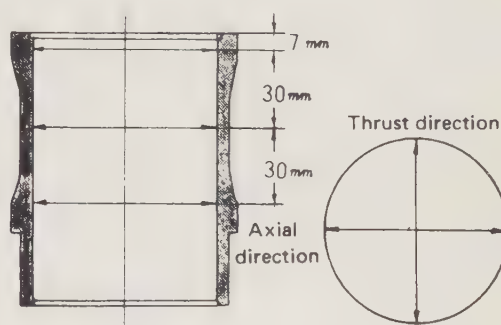

Fig. 1.23. Measuring the bore of the cylinder liner
- 1 Check the cylinder liners for scoring or damage and wear. If the cylinder bores are worn this will result in excessive oil consumption and loss of power. A preliminary check for wear can be made by feeling the inside walls of the cylinders about 0.5 in (12.7 mm) from the top edge. If a ridge can be felt at any point then the bores should be measured with a cylinder bore gauge to ascertain the amount of wear. Measure the inner diameter in both the axial and thrust directions at the positions shown in Fig. 1.23. If wear exceeds the limits specified in Specifications at the beginning of this Chapter, the liner must be renewed, or rebored and oversize pistons fitted. **Note:** If any one of the cylinder liners require reboring all the others must be rebored at the same time.